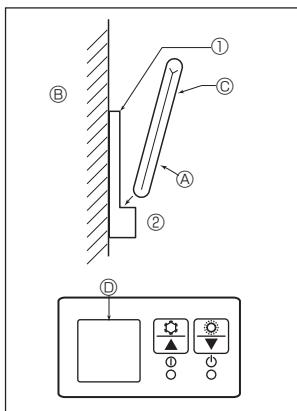
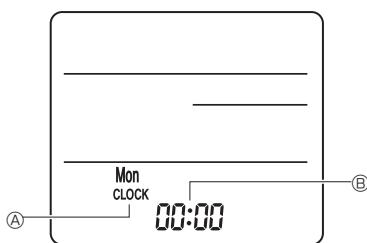

Fig. 6-7
Fig. 6-8
2) Installation method (Fig. 6-7)
- ① Attach the remote controller holder to the desired location using 2 tapping screws.
- ② Place the lower end of the controller into the holder.
3) Setting (Clock setting) (Fig. 6-8)
- ① Insert batteries or press the ● **CLOCK** button with something sharp. [CLOCK] Ⓐ and [.] Ⓑ blinks.
- ② Press the **RESET** ● button with something sharp.
- ③ Press the  button to set the time.